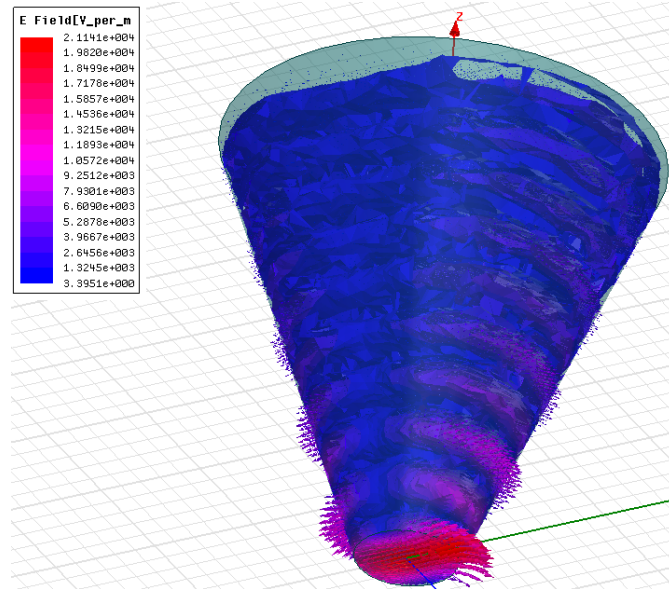

Figure 13: Example electric field (both magnitude and vector) overlay on a conical feedhorn.
- Field Overlays (right-click FIELD OVERLAYS - PLOT FIELDS under the Project Manager): view E, H, J fields, Poynting vector, the simulation's mesh setup, etc. superimposed over the design or a surface of it. (Figure 13) These overlays can be animated.